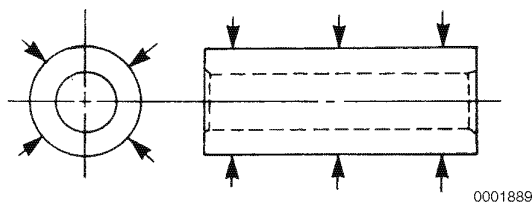

Figure 8-51
7. Measure the outside diameter of the wrist pin in three places and at 90° (**Figure 8-51**). See *Piston on page 8-9* for specifications. Record the measurements.